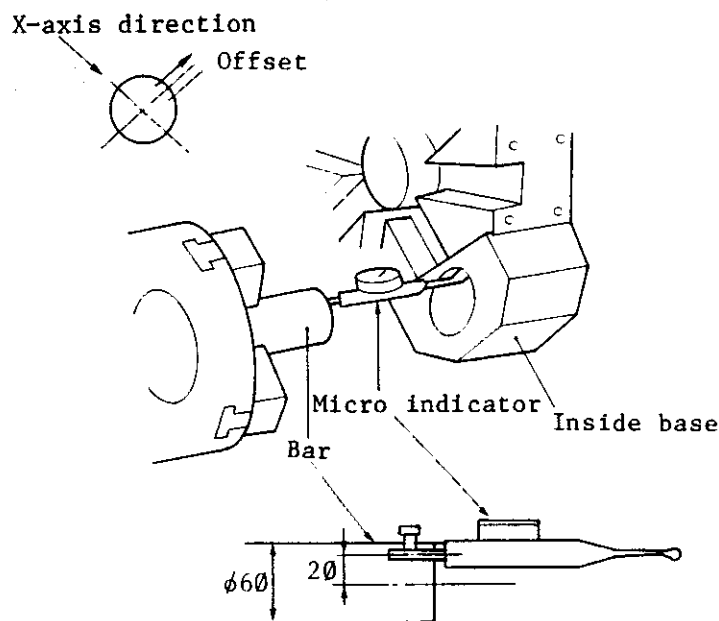

Fig. 4-17
Mount the inside base holder on the turret in the manner as illustrated in Fig. 4-17. Check the center position of the hole on the inside base holder using the micro indicator set in the chuck to check the offset or misalignment of the hole on the inside base holder from the spindle center. Alignment of the spindle center and the inside base holder hole center in the X-axis direction must be adjusted in advance. The offset amount is one half the error read by the micro indicator. If offset amount is larger than  $0.05 \text{ mm}$  ( $0.002 \text{ in.}$ ) make corrections in accordance with the procedure explained in item c).
If turret inclination amount measured as per Fig. 4-17 is larger than 0.02 mm (0.0008 in.), adjustment should be made in the manner indicated below:
If offset amount measured as per Fig. 4-17 is larger than 0.05 mm (0.002 in.), make corrections following the steps below: (Refer to Fig. 4-22.)
- 20) Measure the offset amount again as illustrated in Fig. 4-17.
- 21) Reassemble the cap and tool number plates in the reverse order of 2) and 3). Make sure that O ring (13) in the cap (4) is correctly set.